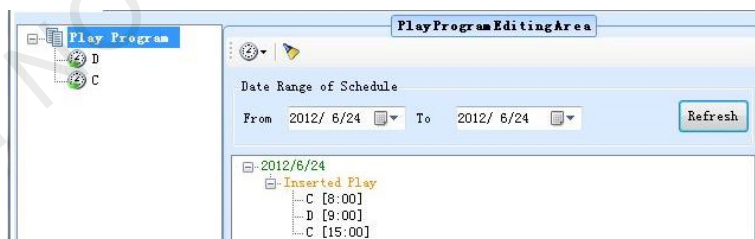

Fig. 10-14 C has higher priority than D
- If F is at the back of E in the play program, then F has the priority to be played on time confliction. The dispatching results will be shown as Fig.10-14.